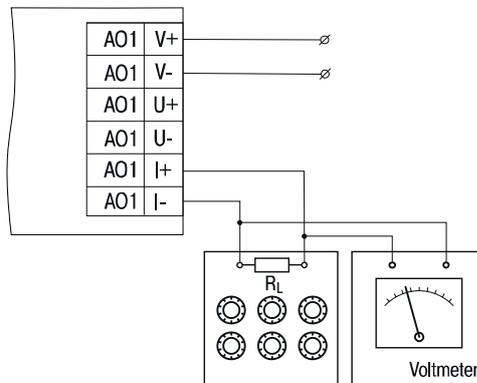

Fig. 6.3 Connection of the current reference signal source to an output ( $R_L < 300 \Omega$ )
1. Connect the reference signal source according to Fig. 6.3 or 6.4 to the output.